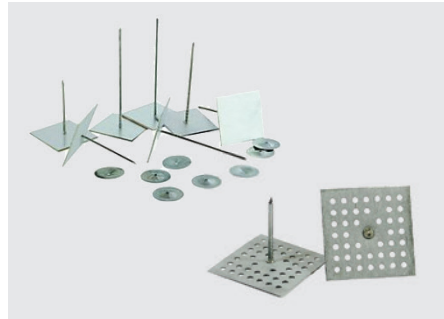

Figure 26: Various insulation pins / hangers for mechanical fixing
- When required, insulation pins / insulation hangers such as those shown in Figure 26, are used as mechanical means of fixing. Caution is advised when proposing the use of self-adhesive insulation hangers in place of perforated plate pins that utilise a separate adhesive; the latter allow a higher bond to the duct surface.